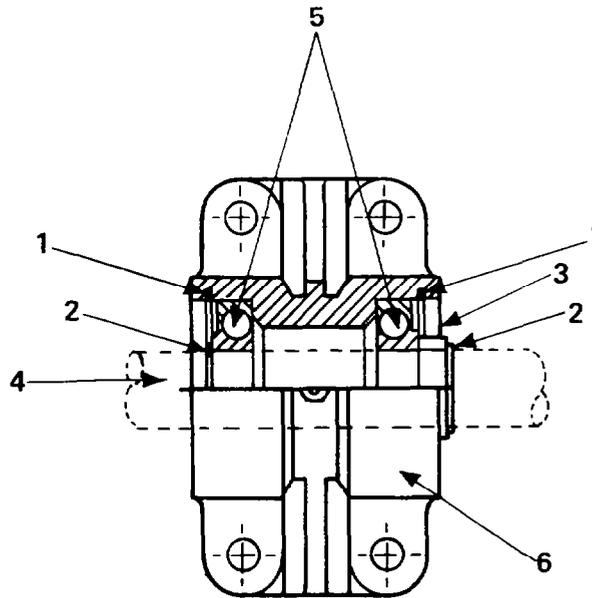

Fig. 389 — Support Bearing Assembly
- a. Remove the two internal circlips (fig. 389, item 1), then remove the two external circlips (item 2); slide the collar (item 3) from the shaft (item 4).
- b. Press the shaft (item 4) out of the bearings (item 5) by supporting the housing (item 6) and applying a steady even pressure to the torque limiter end of the shaft i.e. the longer end of the shaft.
- c. Remove the bearings (item 5) from the housing (item 6); clean and inspect all components; replace any component showing signs of wear or damage.